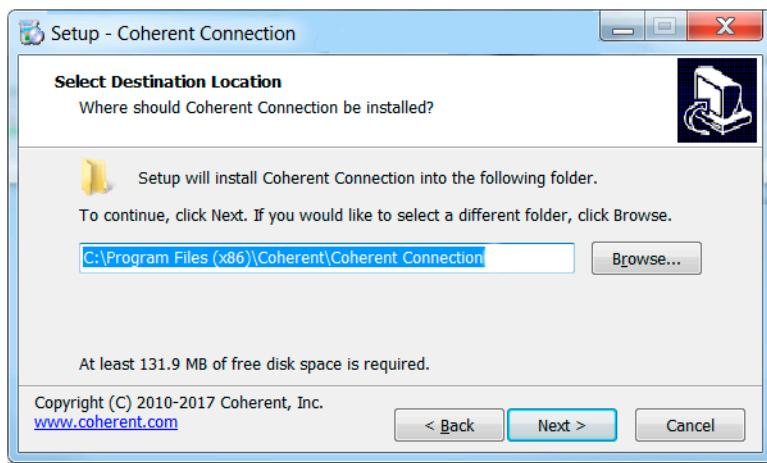

Figure 8-7. Select Directory to Install Software
9. The window shown in Figure 8-7 is displayed. Accept the selection, or browse to select the directory on the workstation where you want to install the software, and click Next.